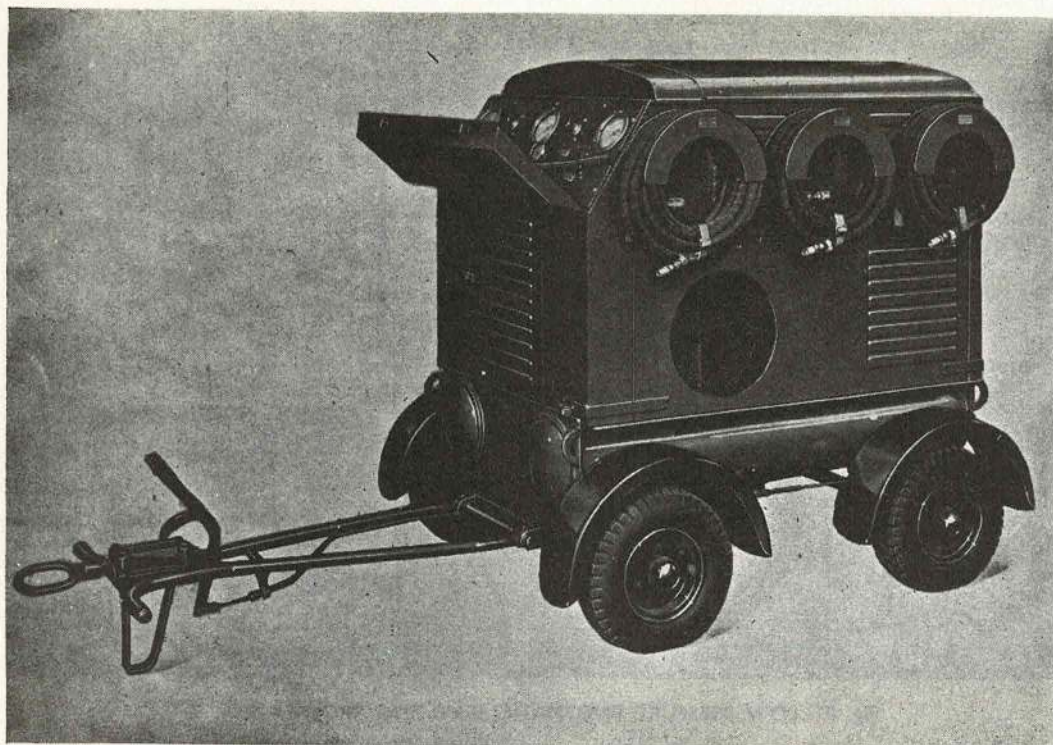

Fig. 9. LOW PRESSURE PNEUMATIC SERVICING TROLLEY—Mk. 2
23. The low pressure pneumatic servicing trolley (Fig. 9) is used where no static lines are available for supplying compressed air for aircraft servicing and for general workshop purposes. The trolley has a maximum output of 20 cu. ft. of free air per minute at 200 lb per sq. in. pressure, but the supply of compressed air can be controlled to any selected pressure between 20 and 200 lb per sq. in. A heater coil uses the heat from the engine exhaust to heat the air to controlled temperatures up to 212-250 deg. F. Moisture is removed from the compressed air supply by means of a filter charged with silica gel.